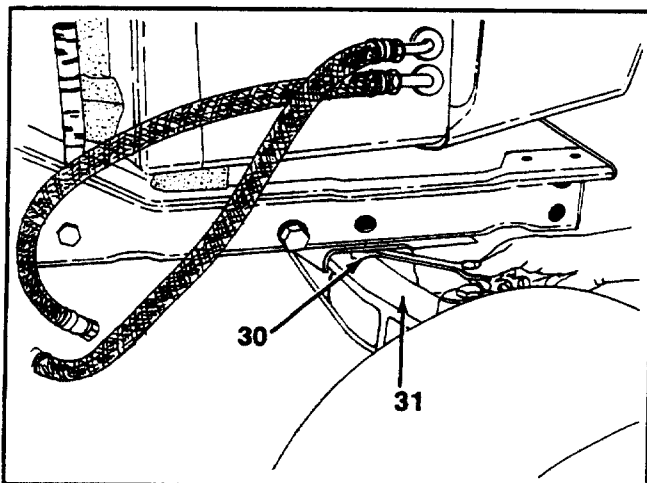

FIGURE 21.
23. Now you can remove the engine and engine cradle as one unit. Remove six bolts from under the chassis. Two of the bolts are just above the pivot bar and require an open-end wrench. See figure 21.